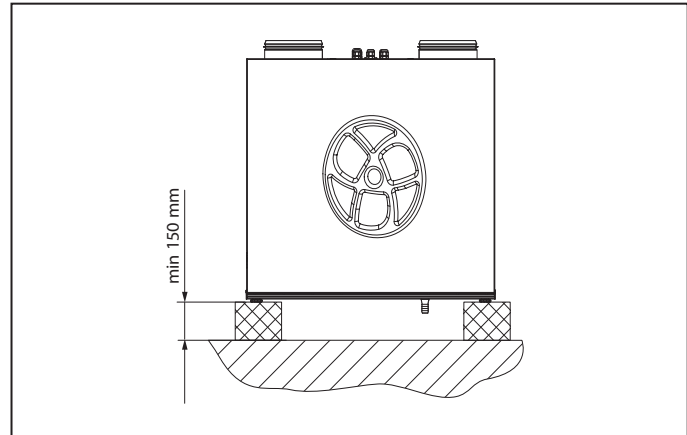

Fig. 9. Unit floor mounting
**UNIT FLOOR MOUNTING (Fig. 9).**